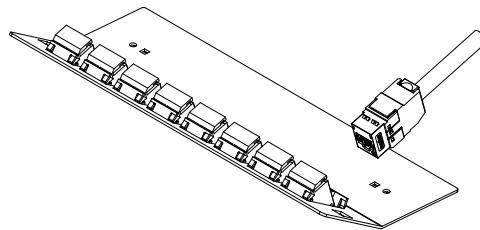

Fig. 33
5. Orientate jack into module fascia as shown in Fig. 33